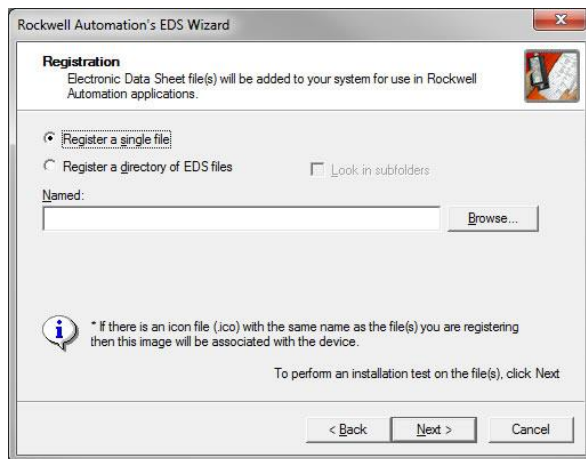

Figure 18: EDS Registration
- 4) The "Registration" dialog will appear. Refer to Figure 18. Click "Browse", select the interface card's EDS file, and click "Next".